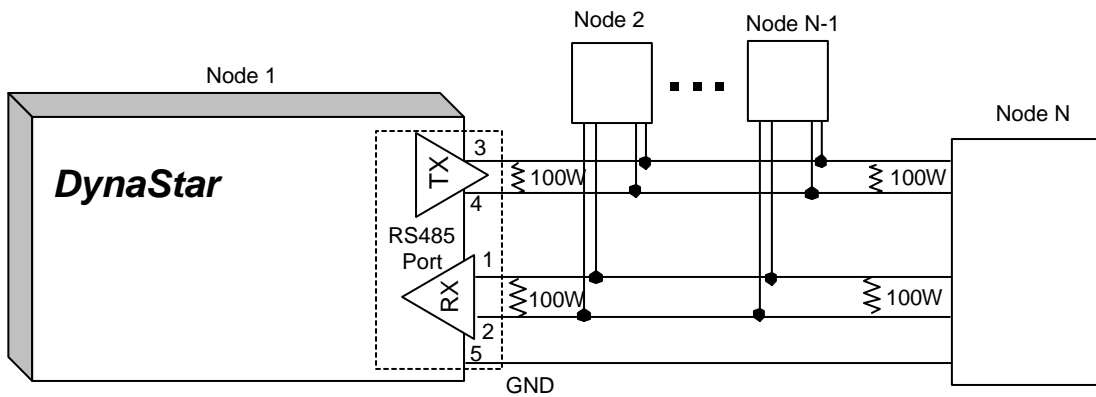
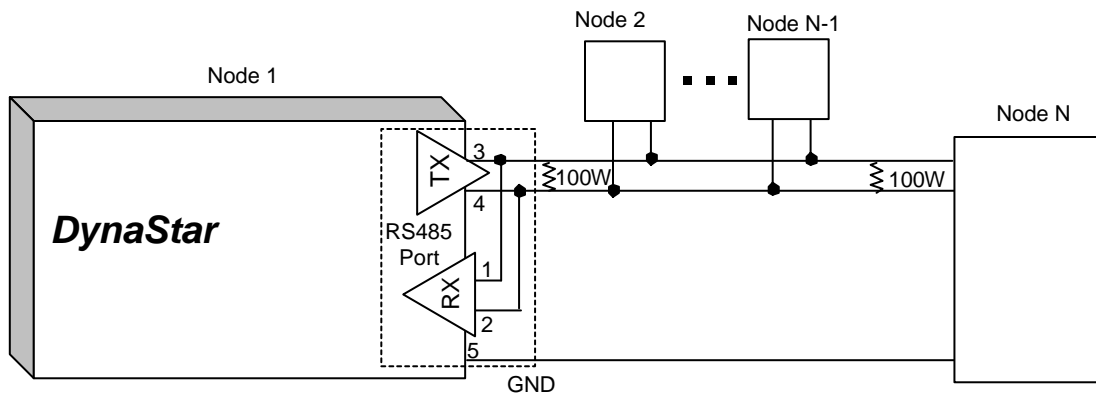

Figure 1-3. RS485 Full Duplex Multipoint Configuration
Figure 1-4. RS485 Half Duplex Multipoint Configuration
**Figure 1-3** shows a 4-wire (full duplex) multipoint configuration; **Figure 1-4** shows a 2-wire (half duplex) multipoint configuration. **Table 1-13** gives the pinout information for the RS485 port.
Note that, for half duplex operation, *three* wires are needed to the far end. Connect the RX pins to the TX pins in the mating connector (pin 1 to pin 3, and pin 2 to pin 4) as shown in **Figure 1-4**, and use pin 5 (GND). The ground connection must be made as this is the reference for the transmit and receive pairs.